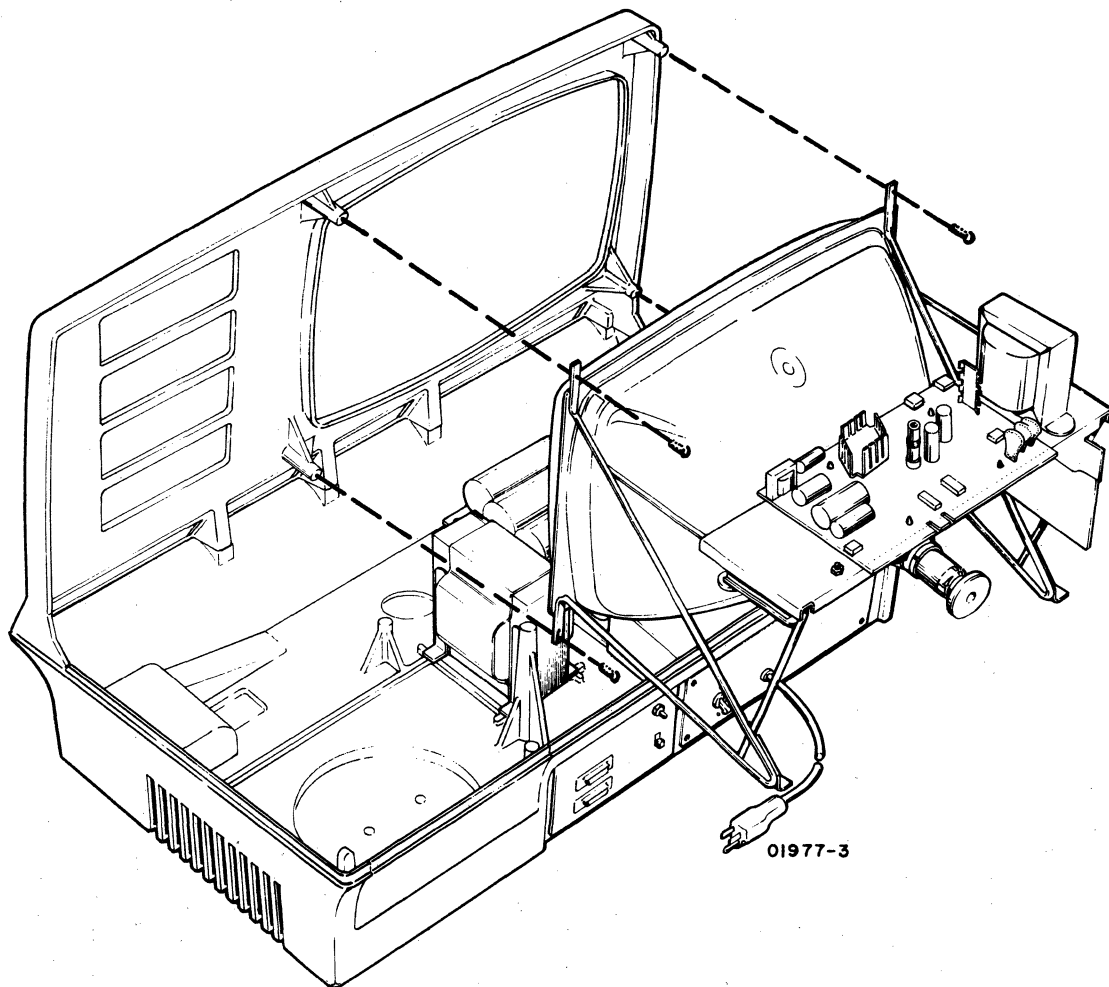

Figure CRT16. Video Module Installation
- 8) Verify left-bottom and right-bottom hex screws are both partially screwed into mounting supports on bezel (figure CRT16).